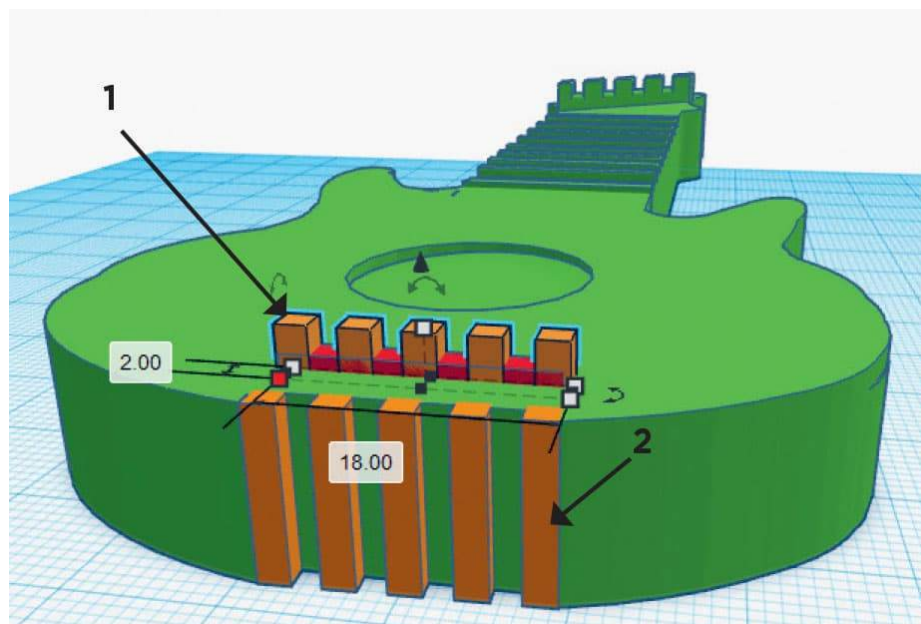
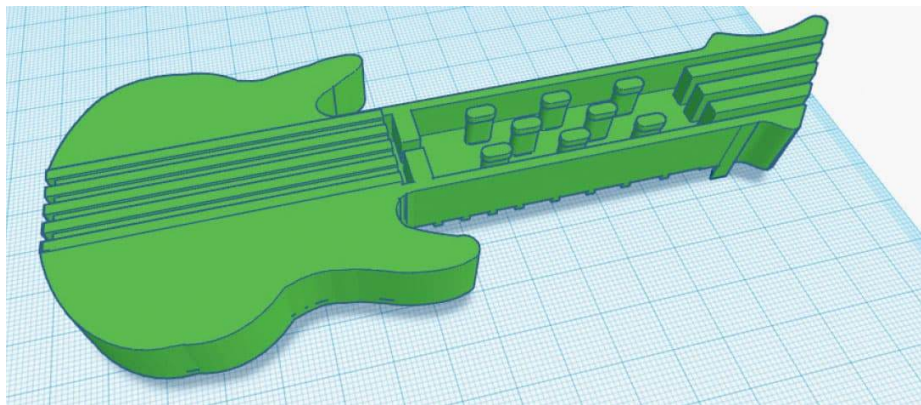

FIG. 8: Use boxes to create a bridge and the guitar string conduits.
FIG. 9: The back of the guitar showing the grooves for the string.
6. The bridge raises the guitar strings off the guitar body so they can vibrate freely to produce clear sound. The bridge is created using basic box shapes (fig. 8). Take care to align the bridge to the corresponding bridge on the headstock of the guitar (fig. 8, arrow 1).
7. The string conduit guides the string along the back of the guitar where it can be fastened. The ridges along the side of the guitar body in fig. 8, arrow 2 and the ridges on the back of the guitar body in fig. 9 show an example of the conduit design. Take care to ensure the guitar body always has a 2 mm thickness at all points, except the sound hole on the top center.
- Assemble the guitar using rubber bands as strings (fig. 9). Test the product for sound using plastic and rubber bands. Also, test the sound using string, actual guitar wire, and copper wire. Note the difference.